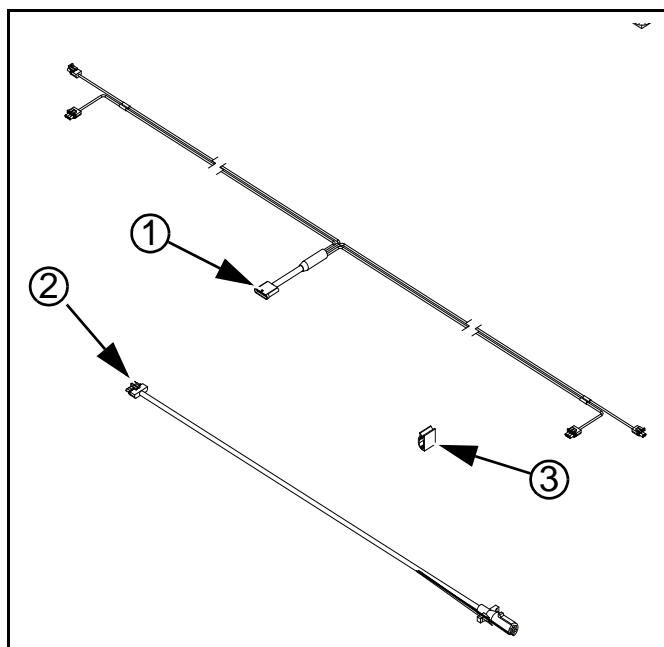

Figure 8
6. Connect the wishbone lighting harness (1) shown Figure 8 to the lighting enhance module installed earlier.
8. Use the wire ties and cord clips (3) to fasten the wishbone lighting harness to the drill.
10. Connect the front lighting harness (2) to the enhance lighting module.